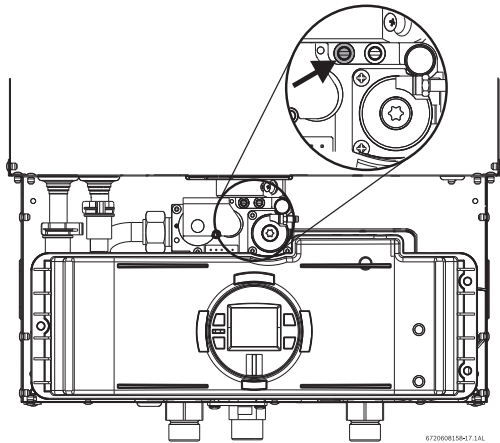

Fig. 32 Gas pressure test port (left tapping)
- ▶ Remove front cover and locate inlet gas pressure measuring point (see Fig. 32).